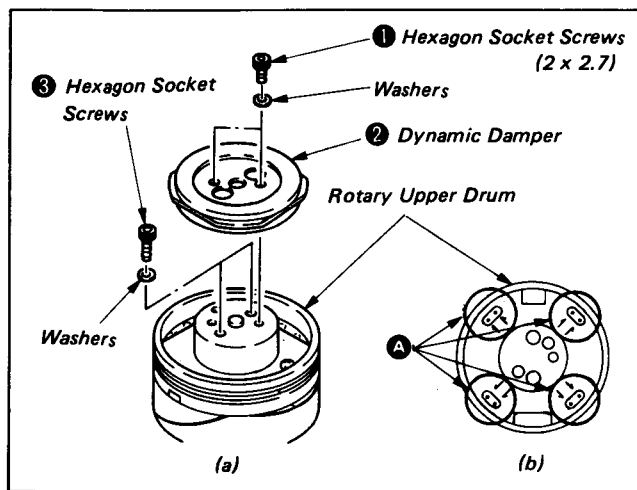

Fig. 8-47.
- 1) Remove two hexagon socket screws (2 x 2.7) ① and dismount the dynamic damper ②. (See Fig. 8-47.)
- 2) Suction solder at all of the soldered eight positions A. Check that the printed wiring board and pins jutting out from below freely move using tweezers, or other tool. (See Fig. 8-47.)
- 3) Remove the two hexagon socket screws (2x5) ③. (See Fig. 8-47.)
- 3) Remove Jig C, lightly push the rotary upper drum by hands. If the rotary upper drum does not go in to the bottom, alternately tighten the two hexagon socket screws (2 x 5) ③ by hand and temporarily fix them. (See Fig. 8-47 and 8-50.)
- 4) Reinsert the Jig C in the positioning hole and check that the jig can be inserted smoothly. (When the jig cannot be inserted, loosen the two hexagon socket screws (2 x 5) ③ and slide it inserting a clock screwdriver in the hole.)
- 5) Tighten the two hexagon socket screws (2 x 5) ③.
- 6) Solder the eight positions A. (See Fig. 8-47.)
- 7) Tighten the two hexagon socket screws (2 x 2.7) ① reversing the screw removal procedure and remount the dynamic damper ②. (See Fig. 8-47.)